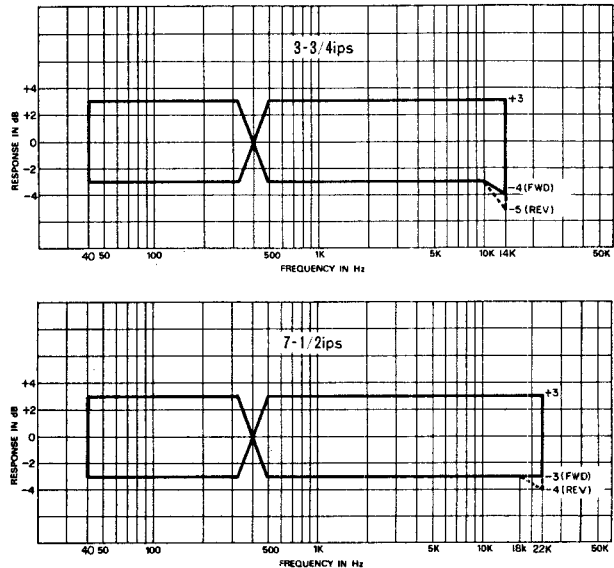

Fig. 8-5 Frequency Response – Playback –
16. Play Tape and compare readings on VTVM with the response limits given in Fig. 8-5.
20. Depress Reverse Play (◀) button and check for suitable output from both channels. See response limits given in Fig. 8-5.